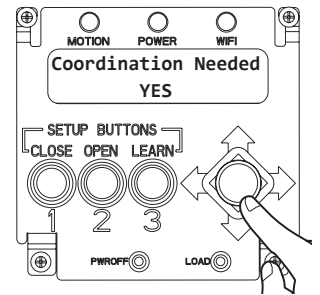

Figure 19
- **\*Coordination Needed** = YES or NO. (Figure 19)